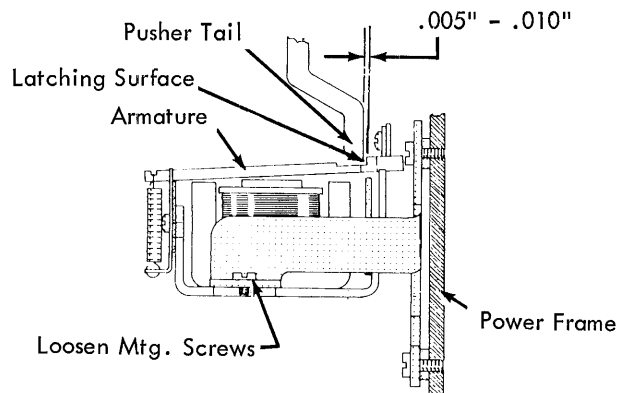

FIGURE 32. Magnet Unit Position
7. Magnet Unit (Fig. 32) - Position under its two mounting screws for .005" to .010" clearance between the pusher tails and armature latching surfaces (armatures at rest).
6. Magnet Unit (Fig. 32) - Position under its two mounting screws for .005" to .010" clearance between the pusher tails and the armature latching surfaces (armatures at rest).